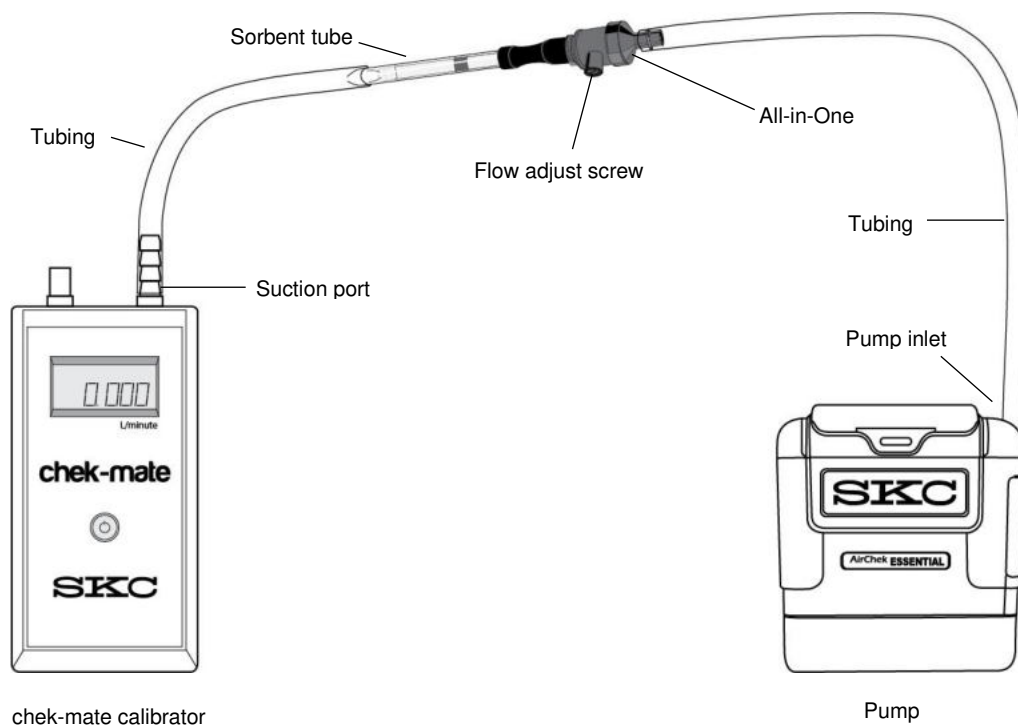

Figure 4. Calibration Train (5 to 500 ml/min) for Single Tube
1. On the tube holder, insert an opened representative tube (arrow on tube pointing toward the pump) into the rubber sleeve on the port. *See Figure 4.*
Set Up the Calibration Train (Figures 4 and 5)